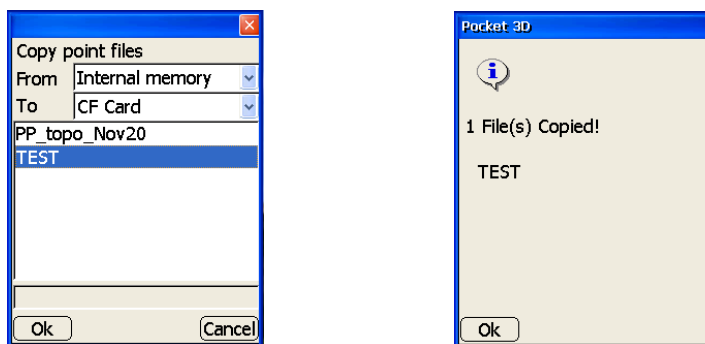

Figure 3-2. Copy Files Dialog Boxes
4. On the *Copy point files* dialog box (Figure 3-2), select the following: